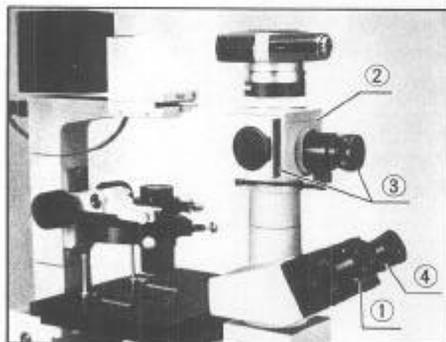

Fig. 43
In place of standard binocular tube, a trinocular tube BH2-TR ① can be attached and used for photomicrography with the PM-10AD system ②. (Fig. 43)
★ In case of fluorescence photomicrography, the bright frame viewer PM-VSB ③ may be used to facilitate focusing. (Fig. 43)
★ In order to focus on the specimen looking through the binocular tube, it is necessary to use a suitable finder eyepiece ④. (Fig. 43)